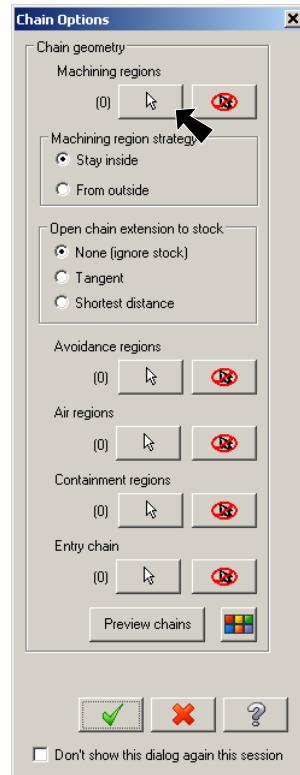

Fig. 42
Step 3. Select **Machining regions**  button in Chain Options dialog box, Fig. 42.